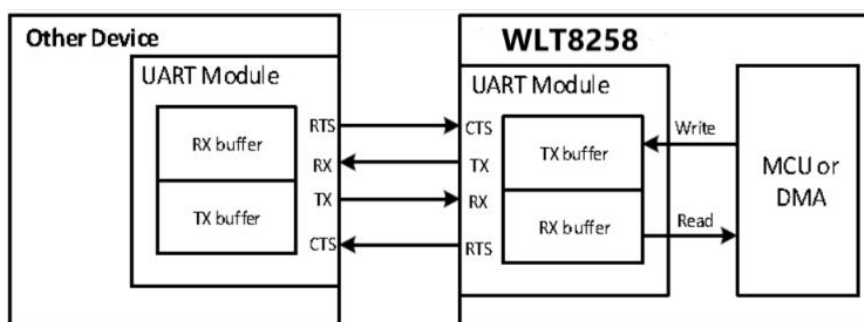

Figure 4-2 UART communication
- As shown in figure 4-2, the sent data is written to the TX buffer, and the UART module uses the TX pin to extract the data from the TX buffer transferred to other devices, the data received by the RX pin is first sent to the RX buffer and then through the MCU or DMA Read.